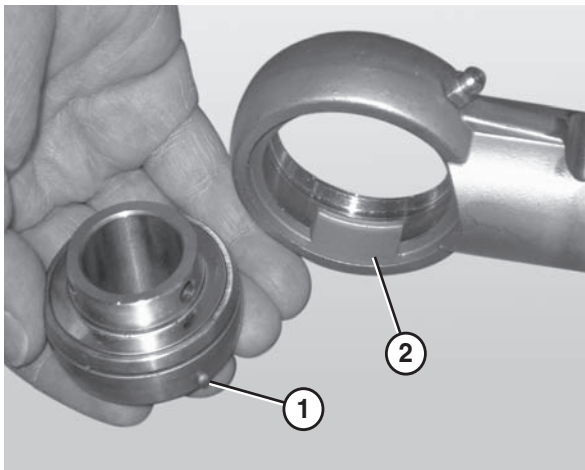

Figure 85
4. Remove the worn or damaged bearing (**Figure 85**).
*When inserting the new bearing, make sure the anti-rotation notch (**Figure 85, item 1**) on the bearing lines up with the groove inside the housing (**Figure 85, item 2**).*